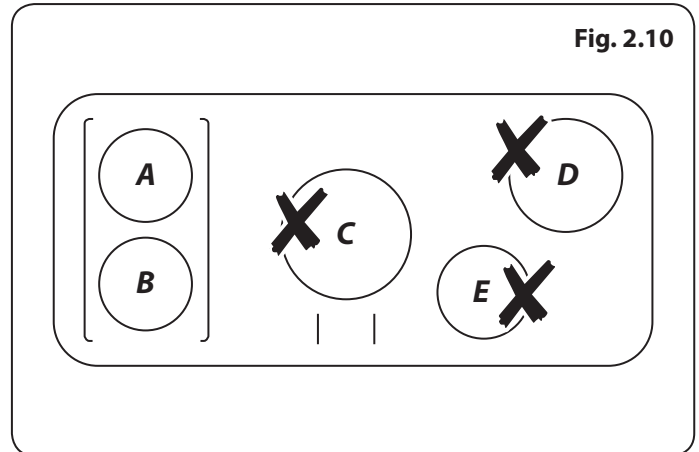

Fig. 2.10
**DO NOT** use zones C, D or E to heat the griddle (**Fig. 2.10**).